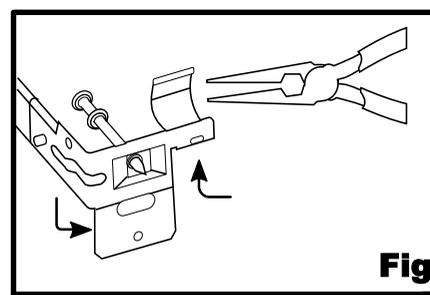
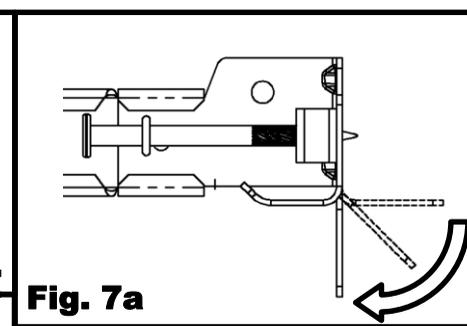
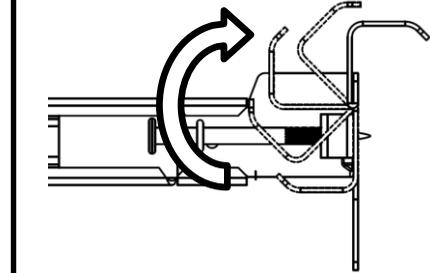

Fig. 7
Fig. 7a
Fig. 7b
1. Use pliers to bend the two tabs at the ends of the hanger bars. **[Fig. 7]** Bend the tab closest to the bar downward to a vertical position. **[Fig. 7a]** Curl the other tab upward about 180°. **[Fig. 7b]**